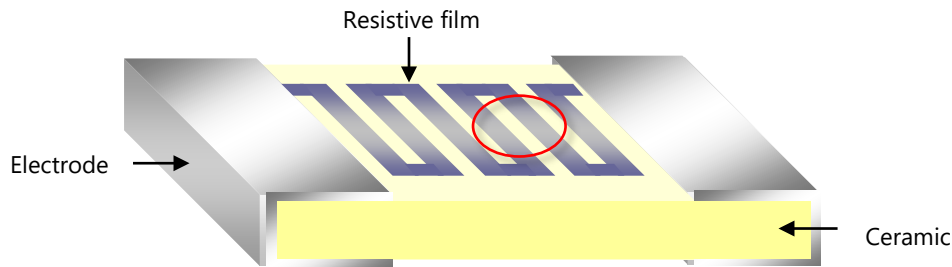
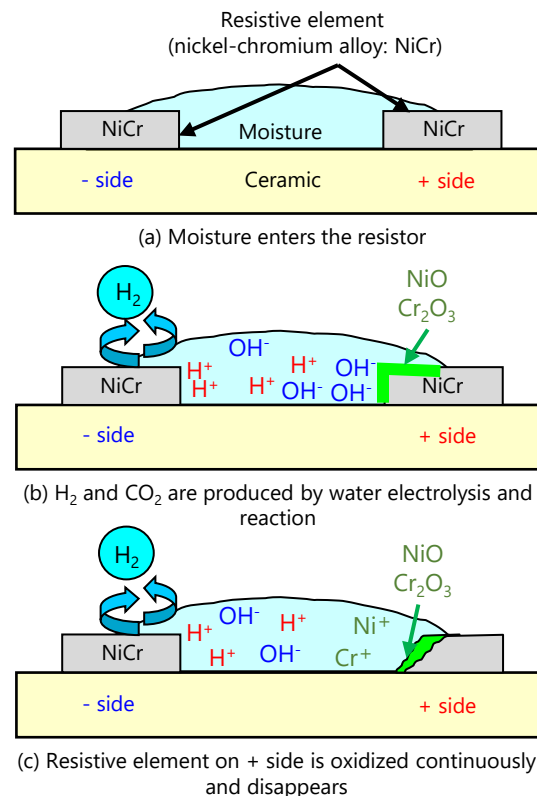

Figure 4 Structure of a metal film resistor
Figure 5 Schematic diagram of electrolytic corrosion in metal film resistors
Figure 4 shows the structure of a metal film resistor. In this diagram, the protective surface coating is omitted to make it easier to see the interior.
Electrolytic corrosion occurs between the turns in the resistive film. The process of electrolytic corrosion in resistors using a nickel-chromium alloy (NiCr) as resistive film is described below. In addition, Figure 5 shows the cross section of the red circled area in Figure 4.
1. Due to deterioration of protective coating etc, moisture penetrates into the component and adheres between the turns in the resistive film (Figure 5(a)).
4. On the positive side (+ side), nickel-chromium alloy (NiCr) in the resistive element reacts with hydroxide ions (OH^-), leading to the oxidation of nickel and chromium (Figure 5(b)).
5. As this reaction proceeds, the resistive element on the + side is oxidized and disappears, eventually leading to an open circuit (Figure 5(c)).